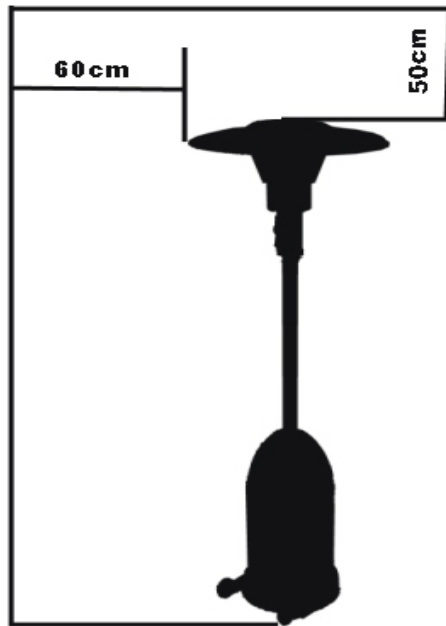

Figure 1
- Always maintain proper clearance to combustibles, i.e. top 50cm (18 inches) and sides 60cm (24 inches) minimum –see figure 1.